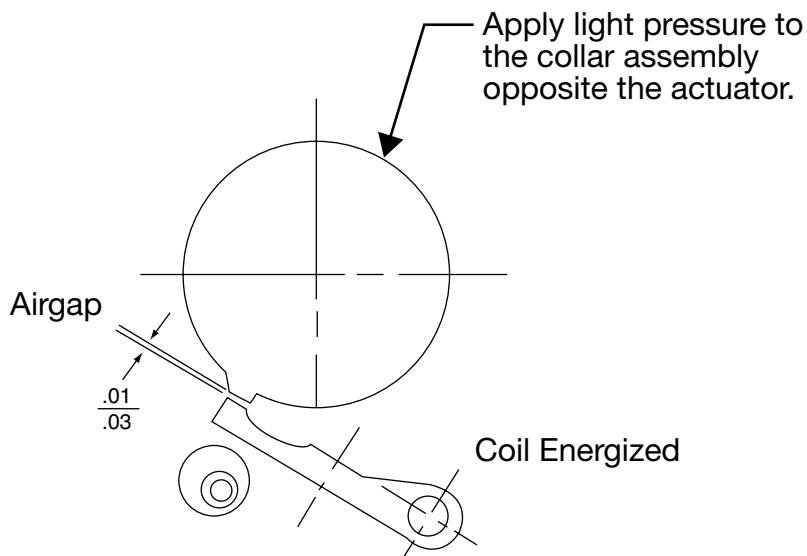

Figure 5
3. Mechanical binding of plunger.	<p>A. Realign coil. As shown in Figure 5, with the coil energized, apply light pressure to the opposite side of the control collar, and set the actuator/ cam tip clearance (airgap) at .010" to .030". Note: For AC coils with an actuator limit stop (ALS) option, the actuator should hit the ALS and bottom simultaneously.</p> <p>B. If Step 3A fails to resolve the problem, replace the coil assembly and perform Step 3A again to realign the coil.</p>